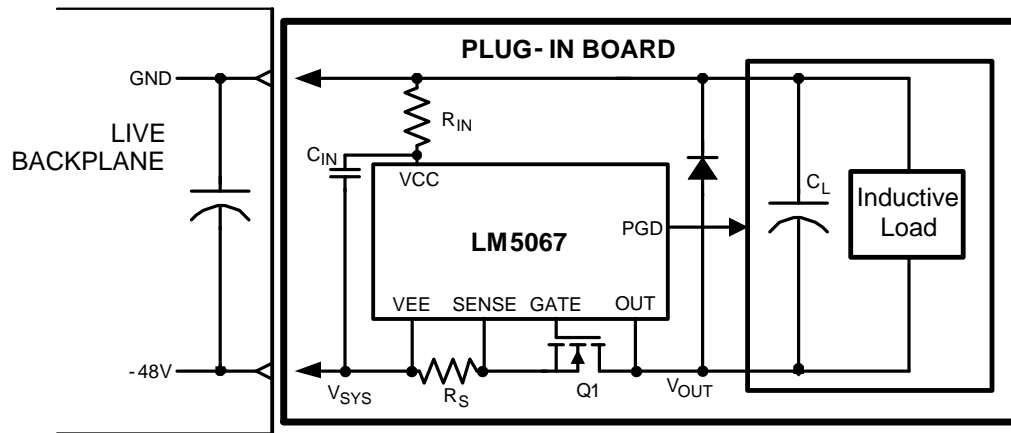

Figure 22. Output Diode Required for Inductive Loads
2. If the load powered via the LM5067 hot swap circuit has inductive characteristics, a diode is required across the LM5067's output to provide a recirculating path for the load's current. Adding the diode prevents possible damage to the LM5067 as the OUT pin will be taken above ground by the inductive load at shutoff. See Figure 22.